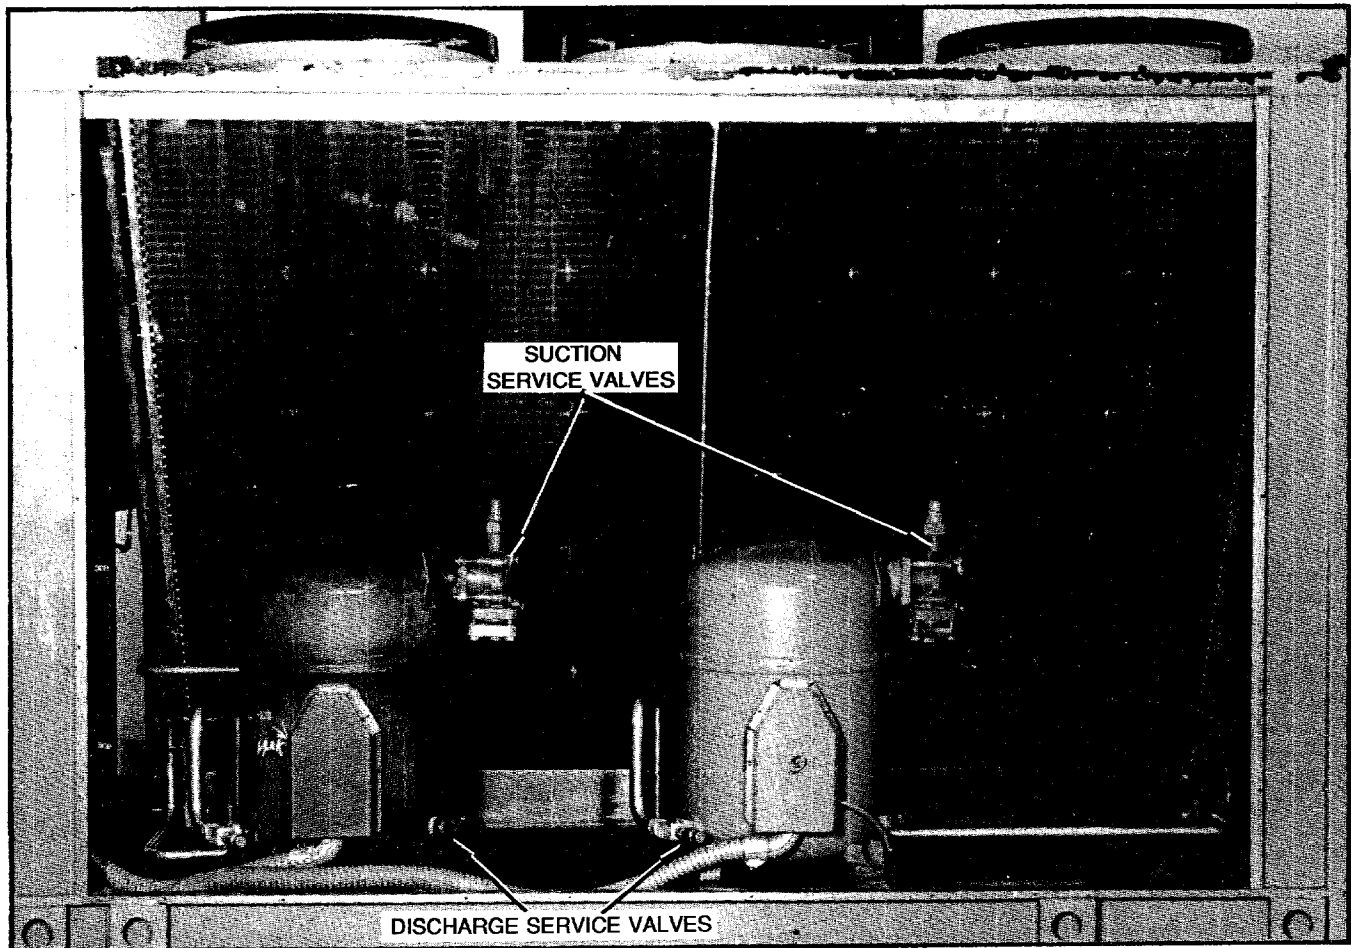
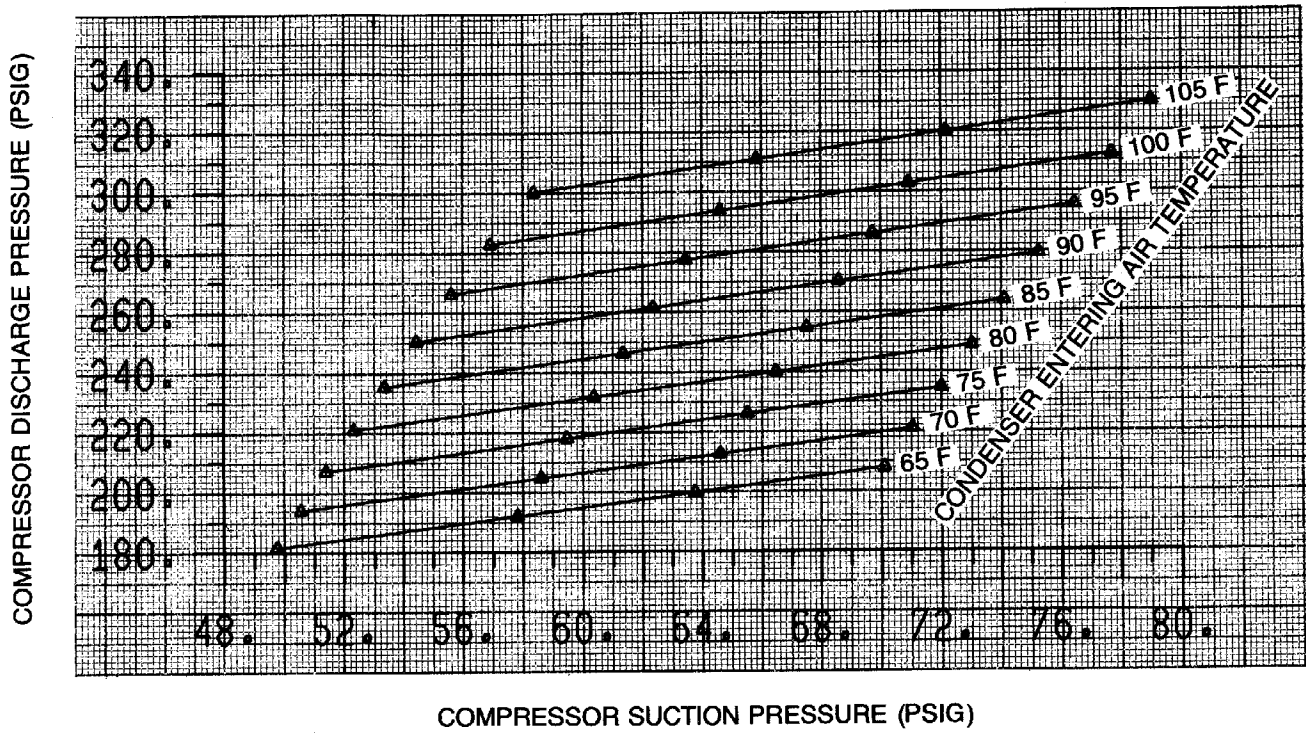

FIGURE 44 - Compressor Access Valves
FIGURE 45 - RAUB-C20 Operating Pressures
- b. Connect the manifold gauge set to the suction and discharge access valves (shown in Figure 44). The manifold valves should be closed.
Measure the suction and discharge line pressures and compare these readings with the normal operating pressures listed in Figures 45 through 50 and Tables 14, 15 and 16. Refer to "Operating Pressures" in the MAINTENANCE PROCEDURES section of this manual. Figure 44 illustrates suction and discharge service valves.
The system is low on refrigerant if: 1) the suction and discharge pressures are lower than the normal operating pressures as determined from Figures 45 through 50 and Tables 14, 15, and 16, 2) liquid subcooling is low (less than 14-19 F).
Use the suction line access valve to add refrigerant to a system with a low charge, making sure that only refrigerant vapor enters the suction line. Continue to add refrigerant until the subcooling is between 14 and 19 F. At this point, the operating pressures should be within the limits defined by Figures 45 through 50 and Tables 14 through 16.
- b. Measure the dry bulb air temperature (F) entering the condenser coil.
- c. If the outside ambient is between 65 and 105 F, enter the appropriate graph in Figures 45 through 50 at the measured suction pressure and condenser ambient. Read the corresponding discharge pressure.
- a. Measure the actual wet bulb temperature (F) of the air entering the evaporator. Be sure to measure the mixed air condition if outside air is being ducted in.